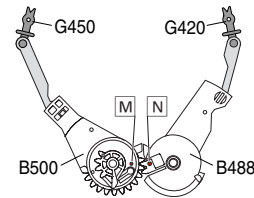

Fig. 18
- Slide the threading roller units (G420 / G450, Fig. 18) in the "Thread" position then remove the threading arms (B500 / B488).
- Insert the threading arms so that the holes (M) / (N) (Fig. 18) face each other in the "Thread" drive mechanism position.